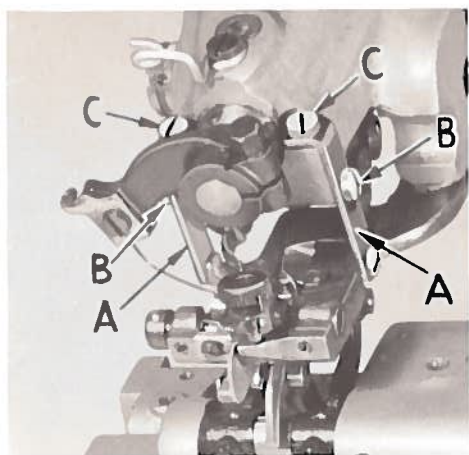

Fig. 2
In order to accomplish these adjustments, the screws in the presser foot brackets (A, Fig. 2) are manipulated. Screws (B) are used to clamp the brackets securely, and screws (C) are used to assist in making adjustments.